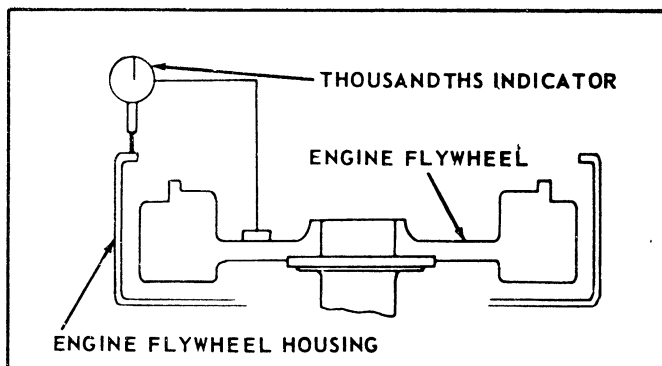

Figure 49. Checking the face of the engine Flywheel Housing.
D. Checking Face of Engine Flywheel Housing. Bolt a dial indicator graduated in thousandths inches to the engine flywheel so that the indicator is perpendicular to the face of the engine flywheel housing, and the indicator stem is riding on the face of the flange (fig. 49). Rotate the engine flywheel and note the face